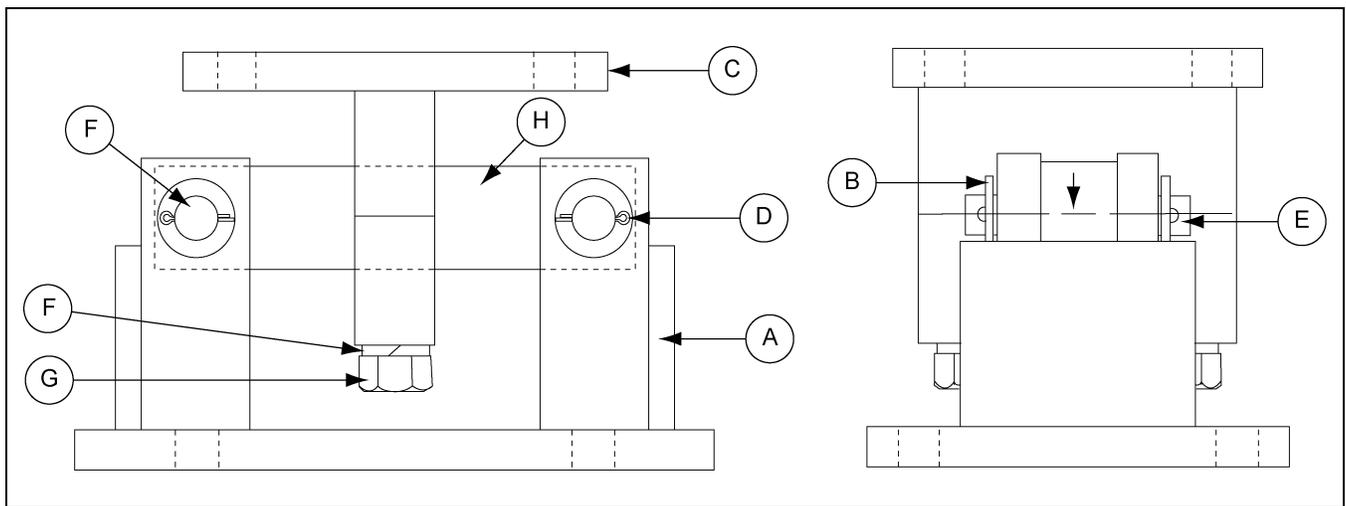

Figure 3A Load Cell
3. As the module is being fitted under the leg of the blender, verify that the leg's centerline passes through the center of the load plate (through the center of the load cell.) *(See Figure 3A on Page 14.)*